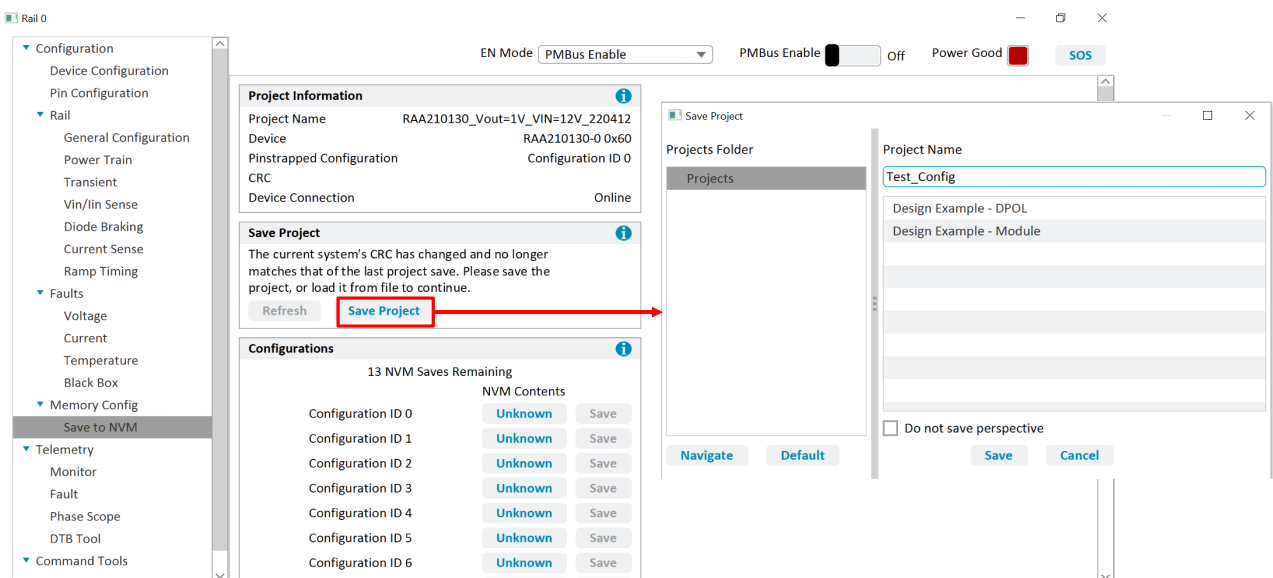

Figure 7. Saving Project before Writing to NVM
- If the word **Save Project** in the middle section becomes blue, instead of the word **Save** on the right of every Configuration ID after hitting **Refresh**, as shown in Figure 7, click on **Save Project** to save the changes to the project. A **Save Project** window pops up. Click on **Navigate** to select the folder to save the configuration file. Hit **Save** to save the configuration file.